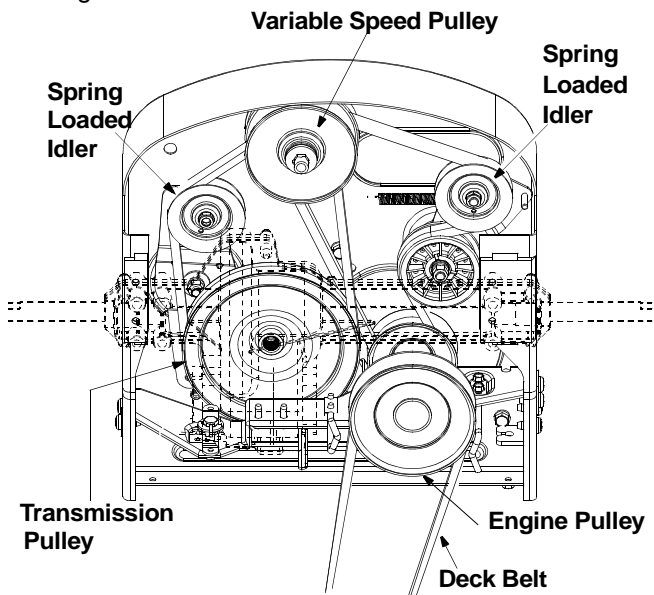

Figure 17
- Push the spring loaded idler, located on the left side of the transmission, to the right. Remove belt from around the idler and then the transmission pulley. See Figure 17.
- Using a 9/16" socket, remove bolt, spacer and the flat washer from the variable speed pulley. See Figure 17 .
- Push the idler bracket to the right and remove the belt. See Figure 17 .